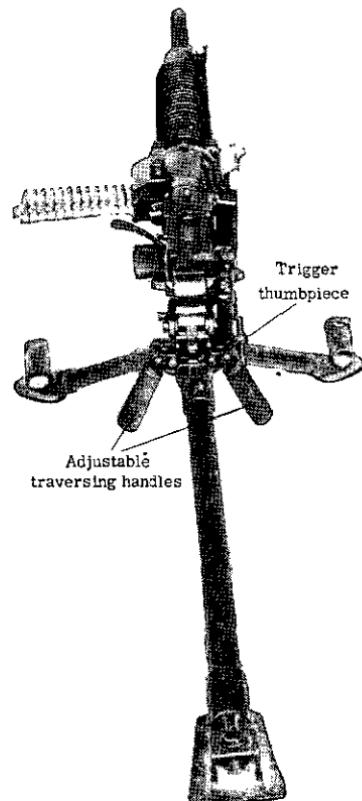

Figure 69.—Model 92 (1932) 7.7-mm heavy machine gun (rear view).
- (1) The large radiating rings (air-cooling flanges).
- (2) The adjustable traversing handles (figs. 69 and 70).
- (3) The cocking handle on the right side.
- (4) The trigger thumbpiece (figs. 69 and 70).
(1) *Safety*.—Turn the trigger thumbpiece clockwise for "safe." When the feed strip is removed, the bolt is locked in the rear position. When a strip is inserted and the bolt is unlocked, the gun can be fired by pressing on the trigger thumbpiece (figs. 69, 70, and 75).